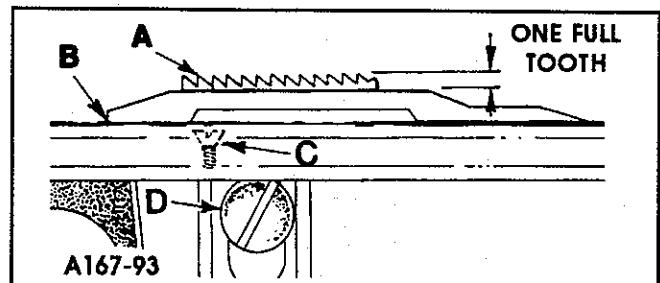

FIG. 11
Feed dog (A, Fig. 11) should be centered in throat plate (B) with equal clearance on all sides and ends with feed travel set to desired stitch length. At highest point of travel, tips of feed dog teeth should extend the depth of one full tooth, above throat plate and parallel to same. Loosen screw (D), which secures feed dog in position, and adjust screw (C) up or down to support feed dog. Retighten screw (D).